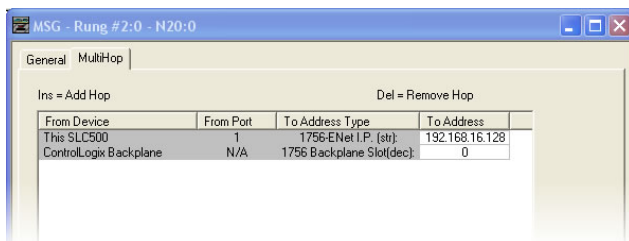

Figure 122: MSG Configuration, "MultiHop" Tab
- Under the "MultiHop" tab settings, set the "To Address" in the first row to the inverter's IP address, and the "To Address" in the second row to 0. Refer to Figure 122.